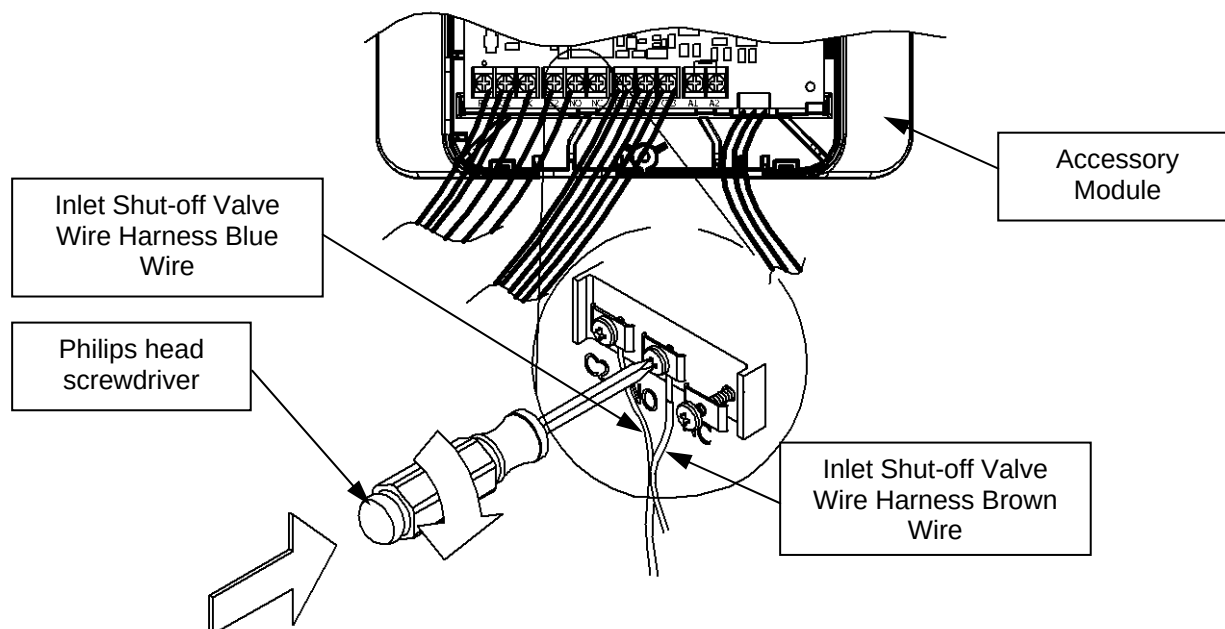

Figure 79
Step 12: Tighten the screw labeled “NO.” This is shown in Figure 79.